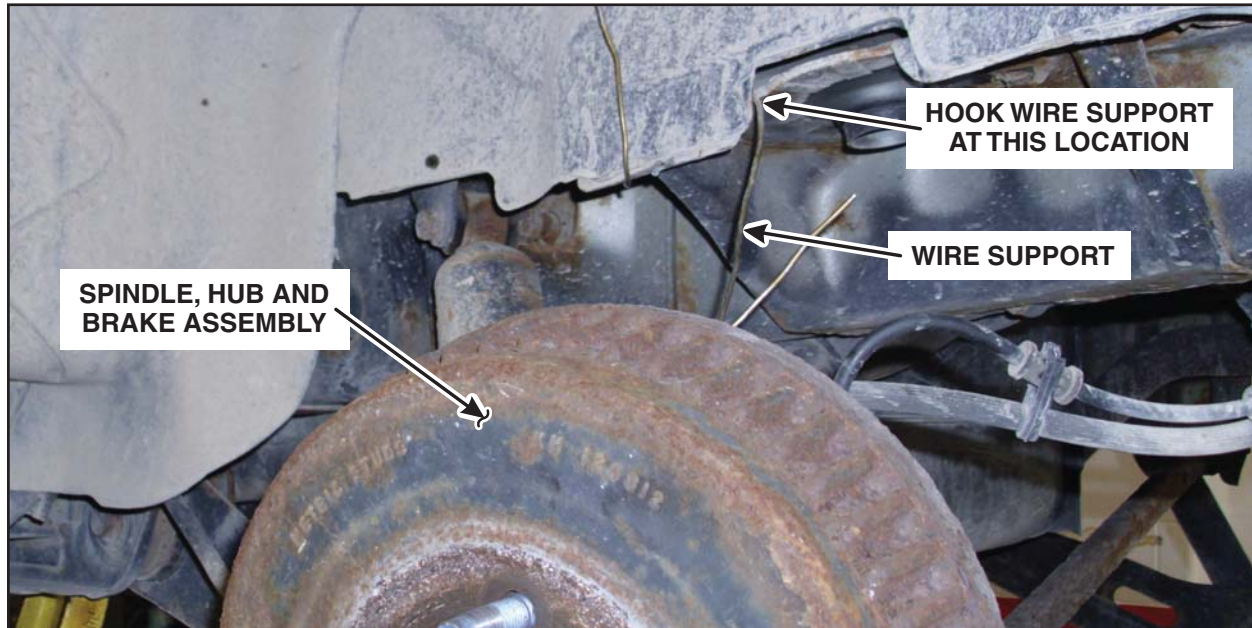

**FIGURE 4**
7. Remove the four spindle retaining nuts. See Figure 4.
15. Install the four spindle retaining nuts. See Figure 4.